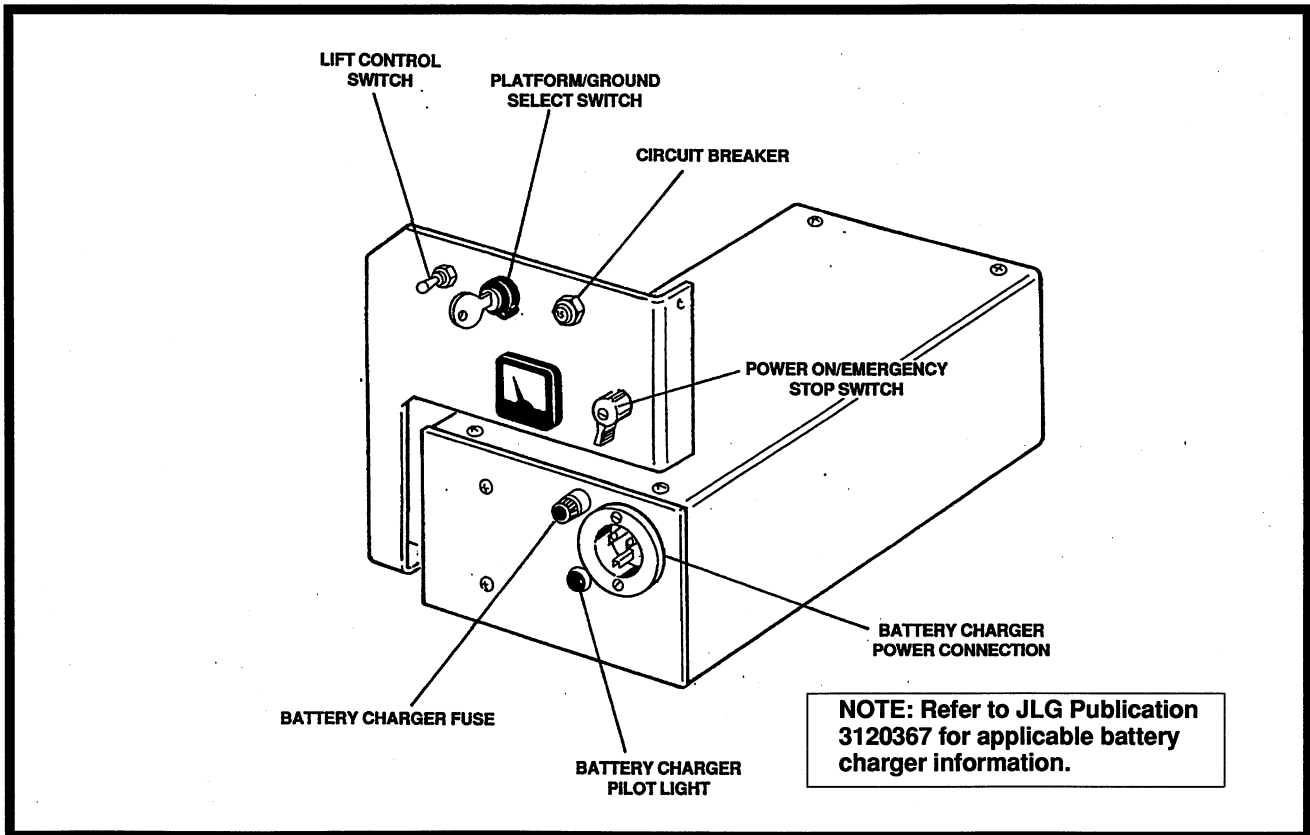

Figure 3-2. Ground Control Station - CM2033/CM2046/CM2546/CM2558.
b. Platform Control Station. (Figures 3-2, 3-3, 3-4, and 3-5.)